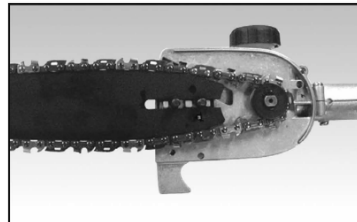
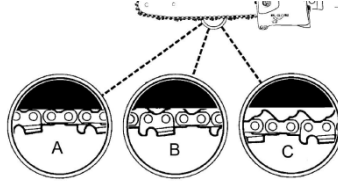

Fig. 3C
Fig. 3D
4. Adjust the tension adjustment screw to allow for insertion of the bar (Fig. 3C). Make sure it follows the groove in the guide bar and adjusts the tension adjustment screw (Fig. 3D) so that the chain is tightened.